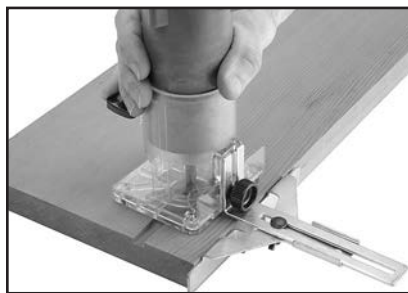

Figure 9. Routing a slot.
3. Follow the instructions in **Routing Operations** on **Page 11** to make the desired cut as shown in **Figure 9**.